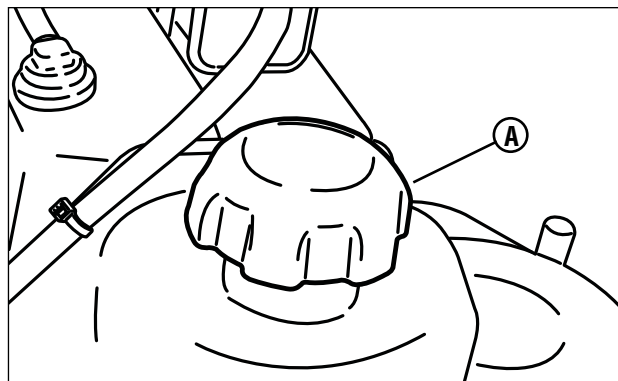

Figure 2: Fuel filler cap
8. Add fuel to the fuel tank after pushing the Rear Engine Rider outside where fumes can dissipate. Make sure the fuel filler cap (**A**, **Figure 2**) is tight after refueling. Refer to the engine manual for fuel specifications.